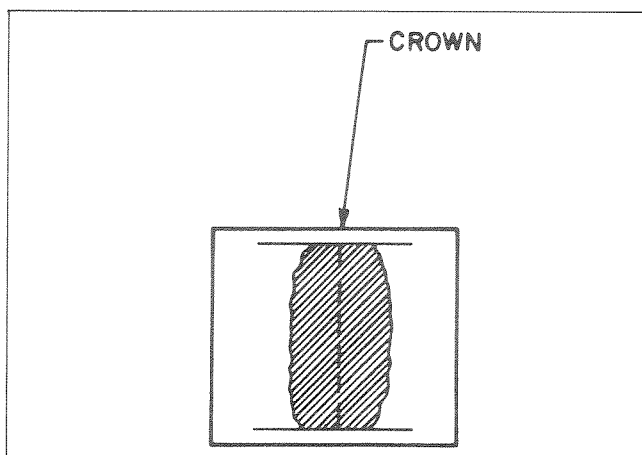

Figure 4-4. Ink Distribution on Head Surface
STEP 7 Move the tape away from the head stack, and use the dry erase marker to ink the faces of the repro and record heads. Ensure that the marking is symmetrical with respect to the crown of each head, as illustrated in Figure 4-4.